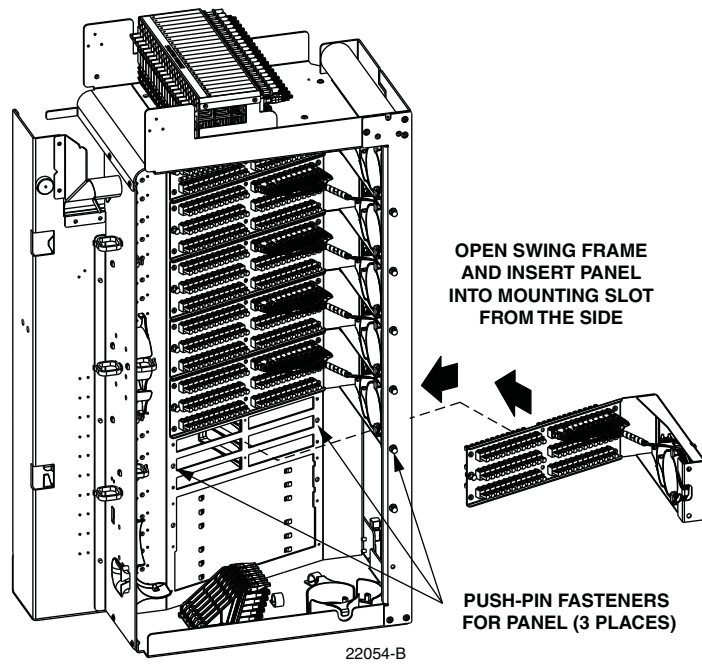

Figure 47. Placing Distribution Panel In Position For Mounting
8. Place the distribution panel in position for mounting on the **rear** side of the swing frame as shown in Figure 47. Use the plastic push pins provided to secure the distribution panel to the rear side of the swing frame.